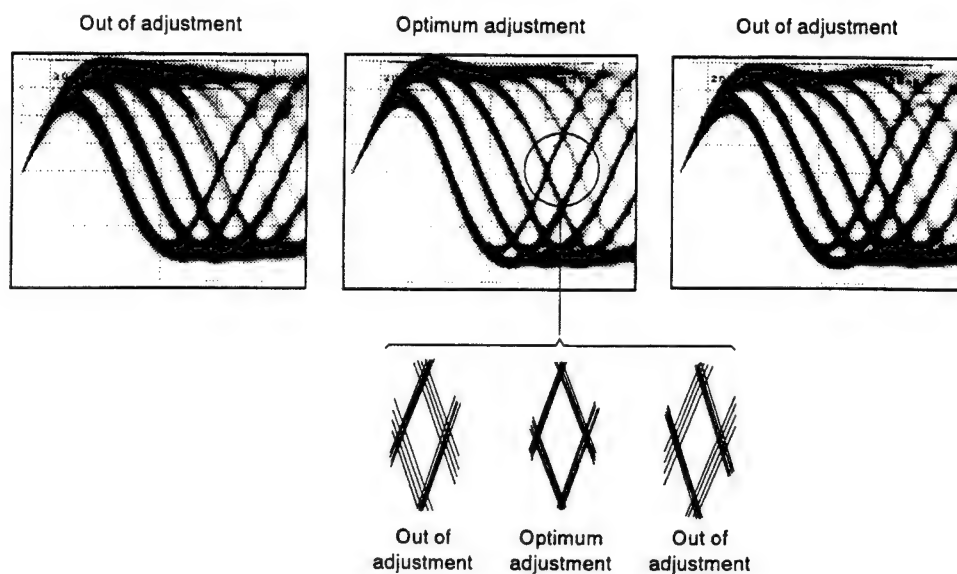

Figure 5 Eye pattern
3. Next, adjust the tangential tilt adjustment screw with an 1.5mm hexagonal wrench so that the eye pattern (the diamond shape at the center of the RF signal) can be seen the most clearly (Figure 5).